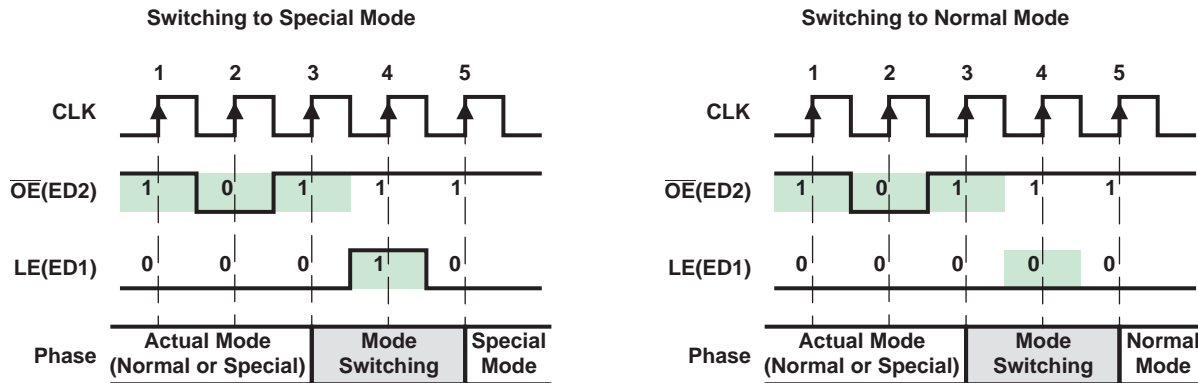

Figure 15. Mode Switching
In order to switch between its two modes, TLC5916/TLC5917 monitors the signal  $\overline{OE}(ED2)$ . When an one-clock-wide pulse of  $\overline{OE}(ED2)$  appears, TLC5916/TLC5917 enters the two-clock-period transition phase, the Mode Switching phase. After power on, the default operation mode is the Normal Mode (see Figure 15).
As shown in Figure 15, once a one-clock-wide short pulse (101) of  $\overline{OE}(ED2)$  appears, TLC5916/TLC5917 enters the Mode Switching phase. At the fourth rising edge of CLK, if LE(ED1) is sampled as voltage high, TLC5916/TLC5917 switches to Special mode; otherwise, it switches to Normal mode. The signal LE(ED1) between the third and the fifth rising edges of CLK cannot latch any data. Its level is used only to determine into which mode to switch. However, the short pulse of  $\overline{OE}(ED2)$  can still enable the output ports. During mode switching, the serial data can still be transferred through SDI and shifted out from SDO.